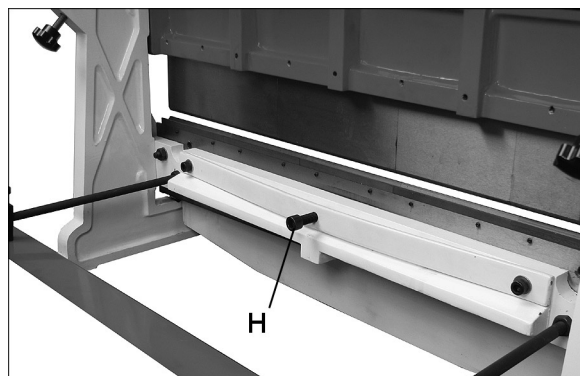

Figure 10
4. If the shear cuts the paper on the ends, but not the center, slightly turn the screw (H, Figure 10) *clockwise* until the paper is cut the entire length.
5. If the shear cuts the paper in the center, but not the ends, turn the screw (H, Figure 10) *counterclockwise* until the paper is cut the entire length.